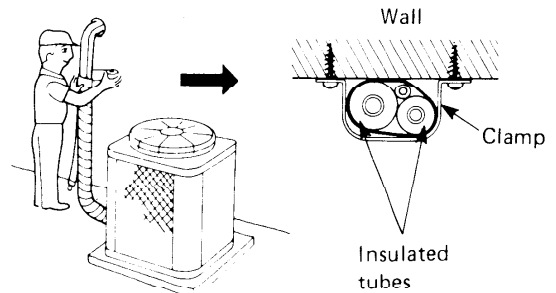

Fig. 28
- a) At this time, the two refrigerant tubes (and electrical wire if code permits) should be taped together with armoring tape. The drain pipe may also be included and taped together as one bundle with the tubing. Fig. 28